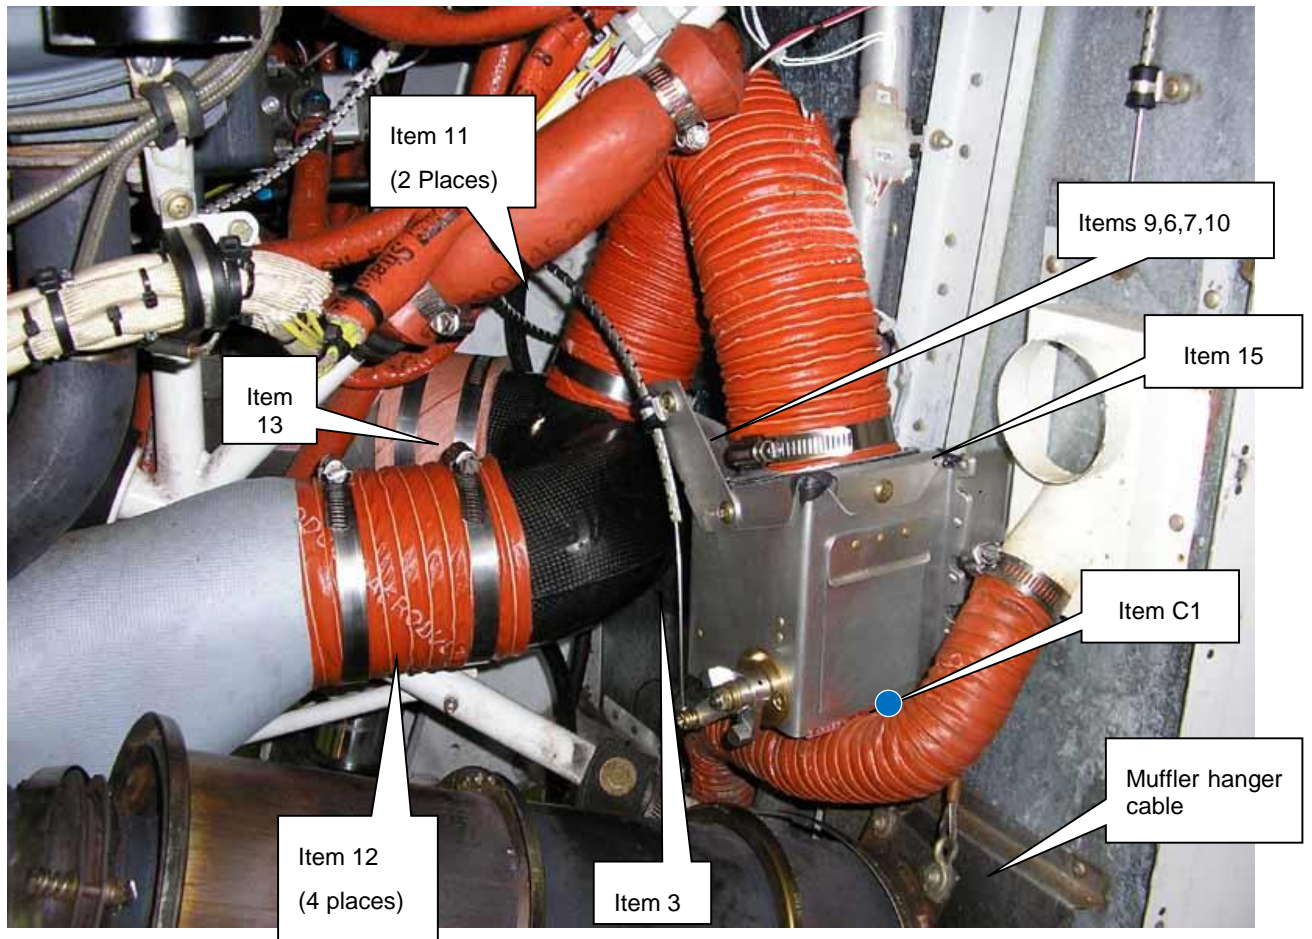

Figure 3
13. Fit the new airbox trunk to the injector with hose, P/N LW-15569 (the cut out in hose LW-15569 goes over the injector inlet). Fit the other end of trunk to the air filter assembly with scat 16 hose and hose clamps. Refer to Figure 3.
16. Apply a small amount of silicone (Item C1) between the alternate airbox and scot hose, at the area identified by the blue circle in Figure 3, to eliminate potential wear due to vibration.